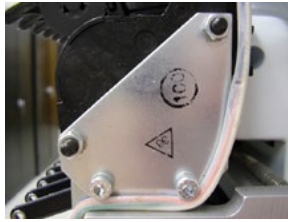

Figure 4 - Thread Feeder Assembly, Right Thread
- Remove the two socket head screws on the right side as shown in Figure 4 above.
- Replace and tighten the two bolts on the right side as shown in Figure 4 above. Tighten the bolts only enough to secure the bracket to the needle case.